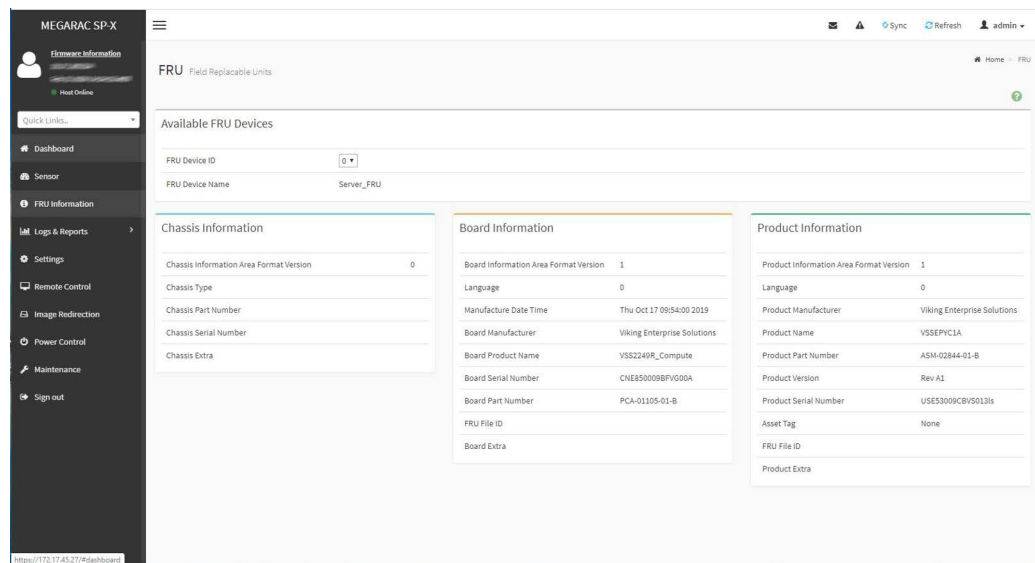

Figure 7.12 FRU Information menu
- Click **FRU Information** to view the chassis, board, and product information related to the selected FRU device as shown in Figure 7.12.